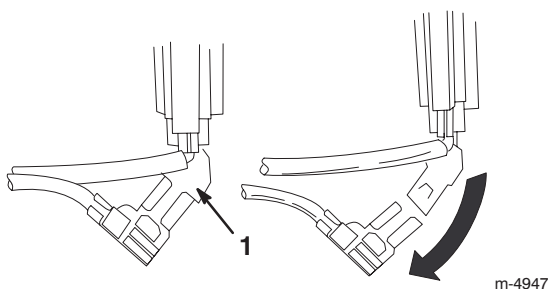

Figure 18
6. Disconnect the green ground wire clip under the throttle (Fig. 18).